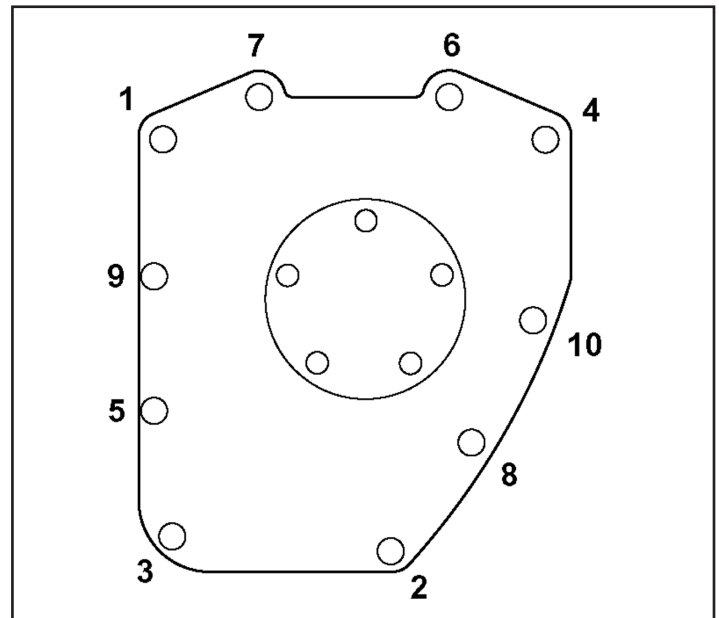

Figure 4
22. Use a new cam cover gasket and install the cam cover. Tighten the cover bolts 90-120 in-lbs torque in sequence shown. **See Figure 4.**